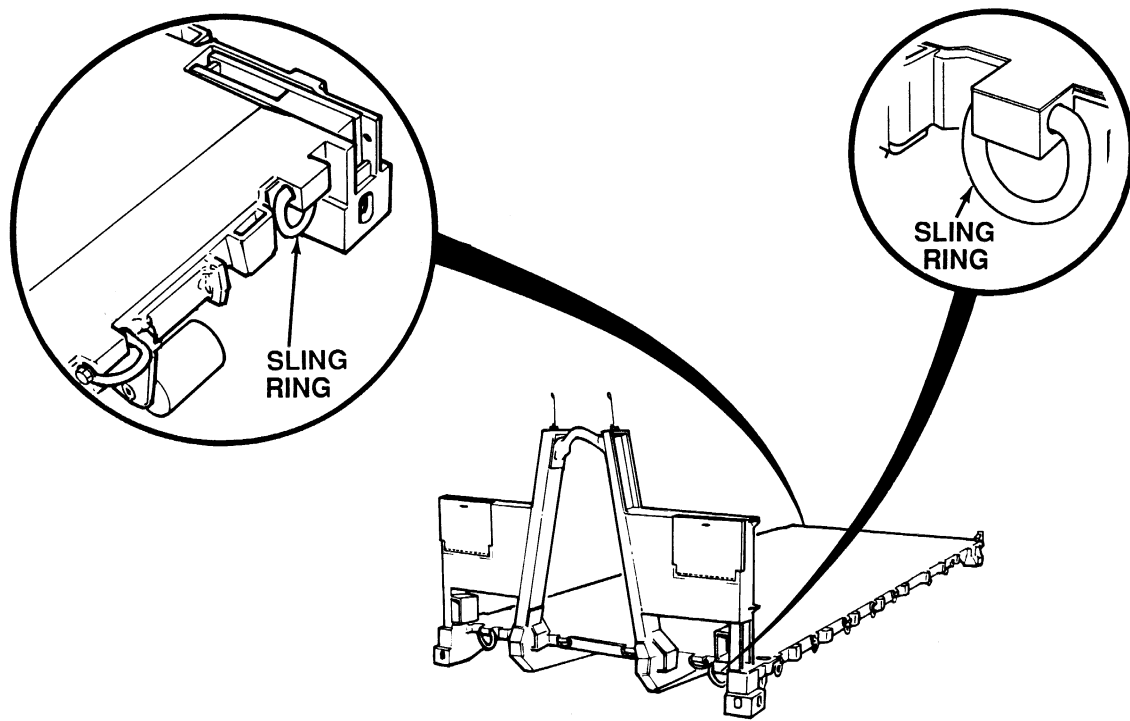

Figure 4-2. Location of Sling Rings
- (1) For other than ordinary operation, flatrack must be secured and lifted with a crane or other suitable lifting device. Normally, the flatrack is moved onto and off truck or trailer using LHS.
- (2) Install sideboards and straps before hoisting any load except an ISO container. Sideboards cannot be installed with an ISO container.
- (3) See Figure 4-2 for view showing sling rings. When lifting a loaded flatrack, use appropriate spreader bar and chains to avoid side contact with load.